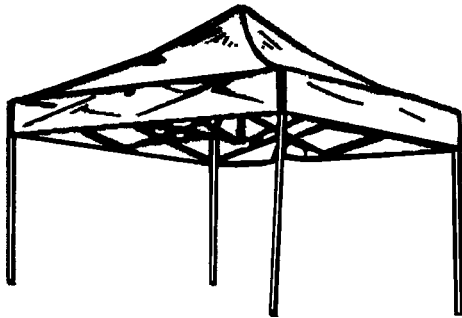

Figure D.2
- Pop-up tent (see Figure D.2)